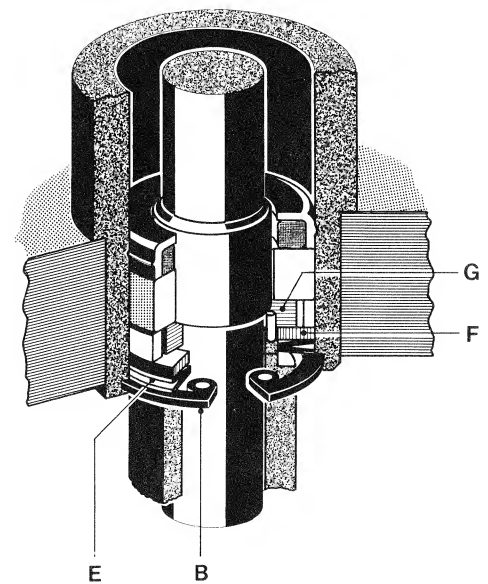

Fig. 3.5.-2
3.5. Capstan motor (fig. 3.5.-1)
- Pull shaft lock A carefully sideways (under high stress); fig. 3.5.-1. Take the rotor of the capstan motor out downwards.